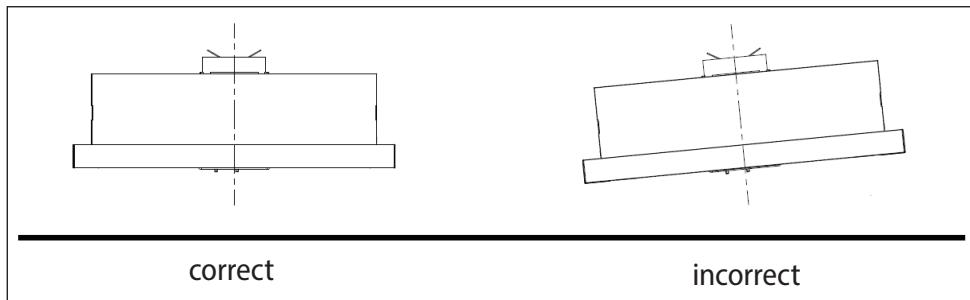

Fig. 6
5. Make sure that the hood is in a horizontal position to prevent the accumulation of grease (grease on one side (Fig. 6).